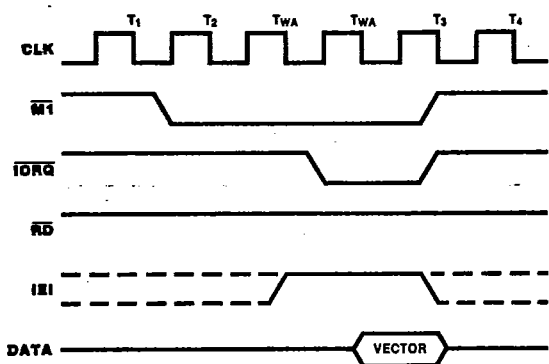

Figure 6. Interrupt Acknowledge Timing
**Interrupt Acknowledge Timing.** Figure 6 shows interrupt acknowledge timing. After an interrupt request, the Z80 CPU sends an interrupt acknowledge (M1 and IORQ). All channels are inhibited from changing their interrupt request status when M1 is active—about two clock cycles earlier than IORQ. RD is High to distinguish this cycle from an instruction fetch.